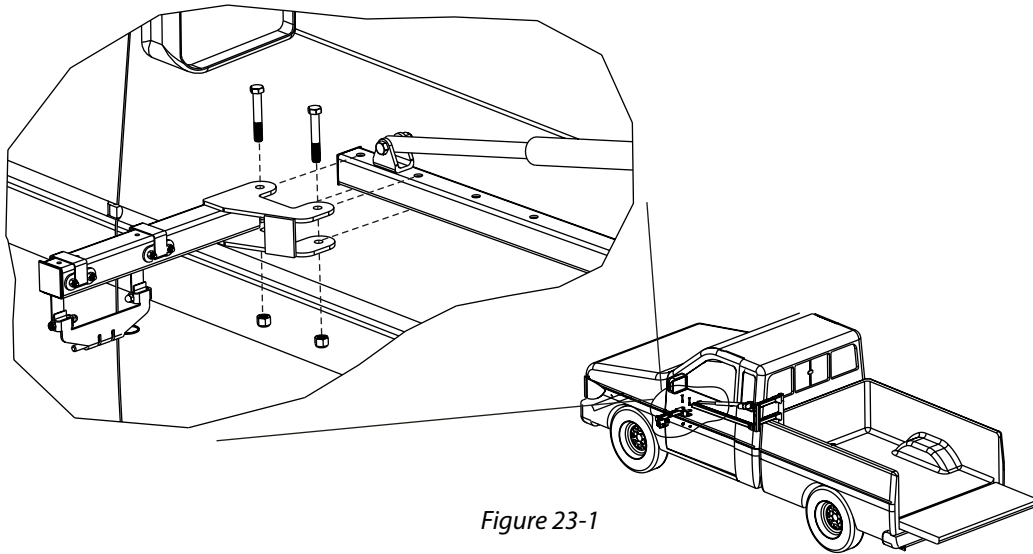

Figure 23-1
4. Attach Strap Arm in the appropriate set of holes based on the amount of reach required. [Figure 23-1]